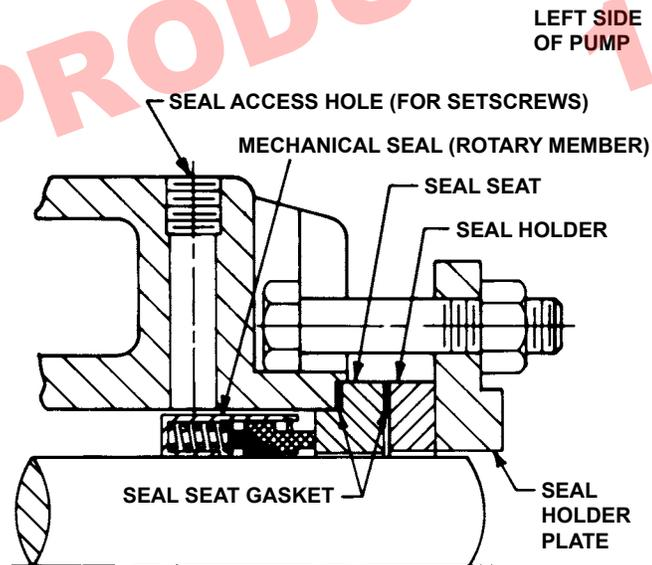

FIGURE 5 - PTFE FITTED MECHANICAL SEAL
4. Standard Mechanical Seal (PTFE fitted type) is setscrew driven. Setscrews in rotary member must be loosened before shaft can be removed. Access to collar setscrews is through seal access hole on left hand side of mounting bracket (viewed from shaft end, **Refer to Figure 5.**)
7. Move rotary member so setscrews are directly below seal access holes on left side of bracket (viewed from shaft end) **Refer to Figure 5.** Tighten all setscrews securely to shaft. Flush sealing faces of both rotary member and seal seat with oil and install seal seat and seat gasket over end of shaft against machined bracket face. Assemble other seal seat gasket, seal holder, seal holder plate, capscrews and nuts and tighten securely. Remove tapered installation sleeve.